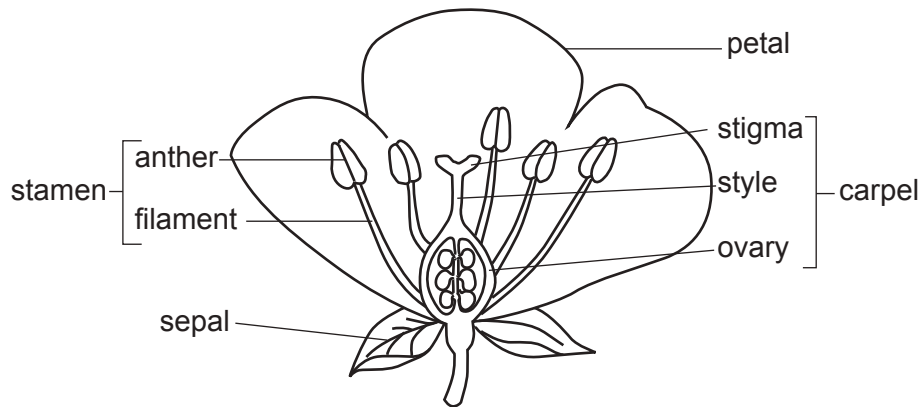
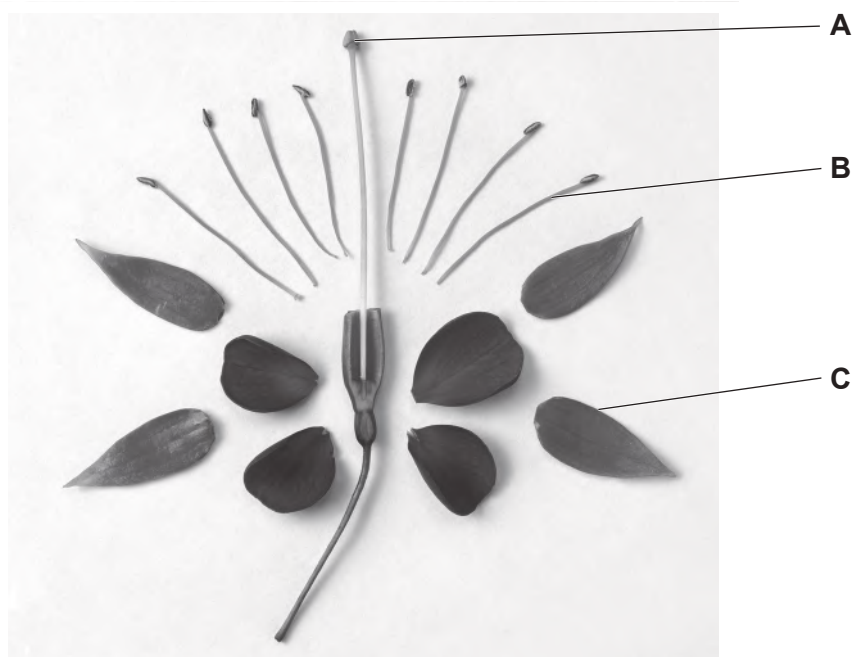

Fig. 2.1
Fig. 2.2
- 2 (a) Fig. 2.1 is a labelled diagram of the parts of a flower.
Fig. 2.2 is a photograph showing the parts of a flower that have been separated.
Complete Table 2.1 using the information in Fig. 2.1 and Fig. 2.2 by stating the:
- number of each of the flower parts **A**, **B** and **C** visible in Fig. 2.2.